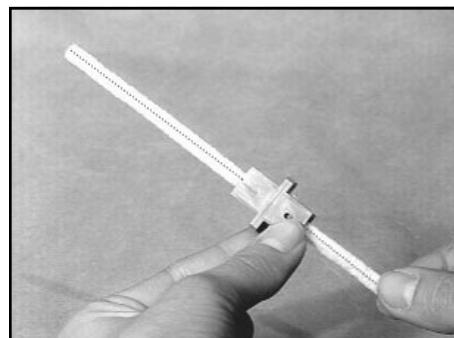

Fig. I3
B. Insert an isopropyl alcohol dampened pipe cleaner into the coupling to remove any foreign particles (Fig. I3). Blow with compressed air.